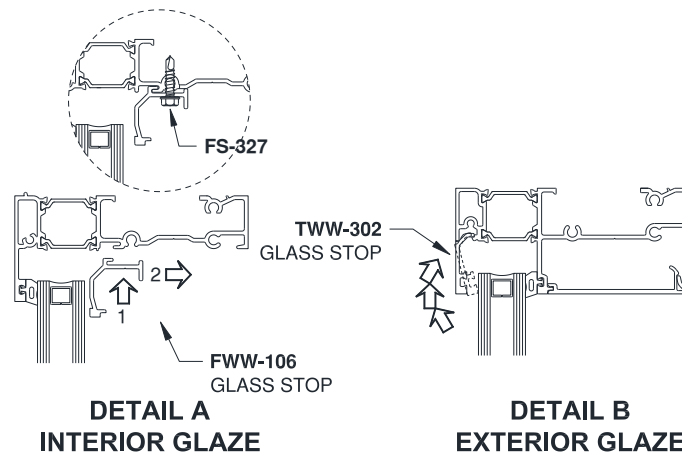

Figure 47: FWW-106 Glass Stop Installation
- For Interior Glazed panels, install **FWW-106** Glass Stop with **FS-327** fasteners at Head and Intermediate Horizontals. Lift the Glass Stop into position and hook the legs into the Head. Pull the Glass Stop toward the interior of the unit to secure the Glass Stop. Reference *Figure 47*.
- For Exterior Glazed panels, install **TWW-302** Glass Stop at Head and Intermediate Horizontals. Tilt and roll the Glass Stop into place. Reference *Figure 47*.